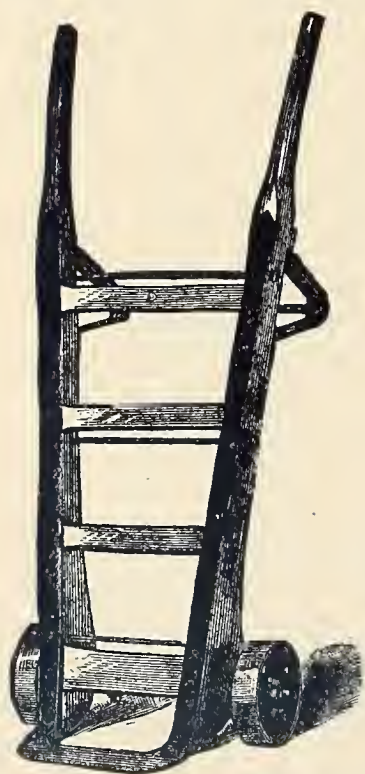

Fig. 505. — Extra Railroad Freight-Truck.
*The Extra Railroad Freight-Truck*, represented by *Fig. 505*, is very favor-